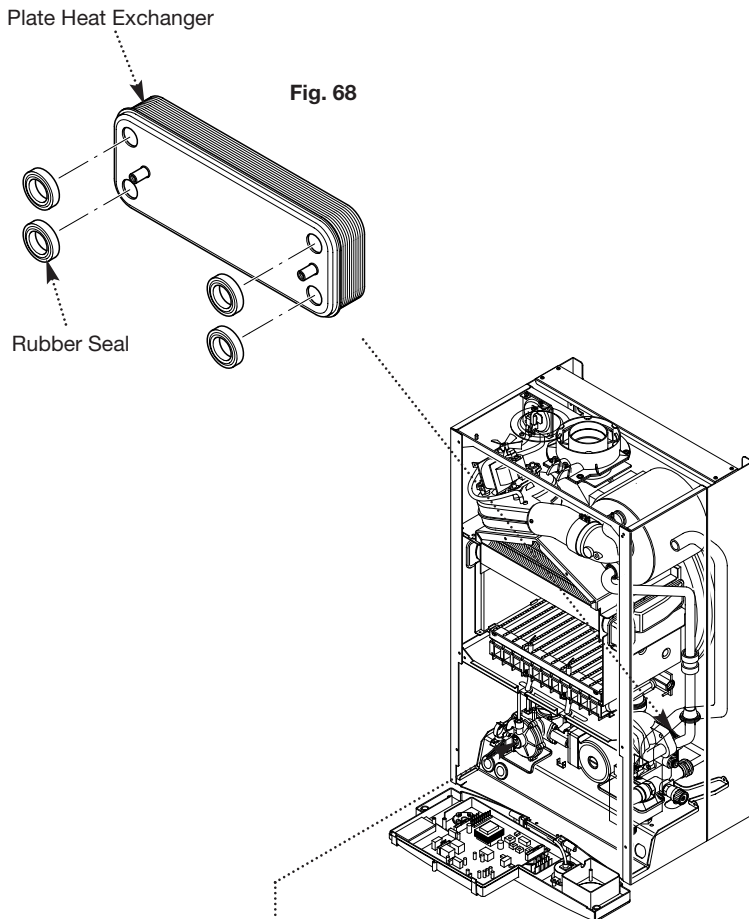

Fig. 69
12.21 Diverter Valve Assembly (Fig. 69)
2. Undo the screw securing the microswitch bracket to the valve (Fig. 69).